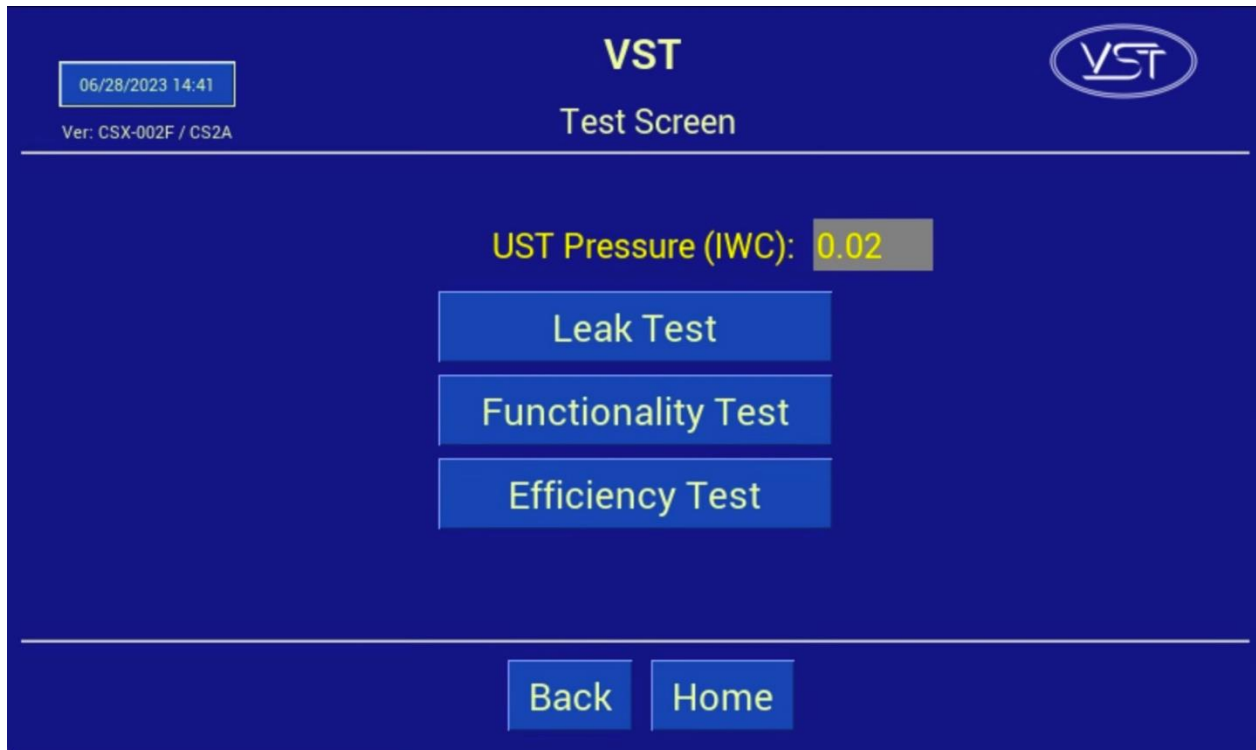

Figure 8-18: Test Screen
- e) Push the Run Tests button. Then push the Functionality Test button. **See Figure 8-18.** This button runs the GREEN MACHINE which allows you to check the voltage on each of the terminals of the solid-state relay. See the table below for expected voltage values of each terminal.